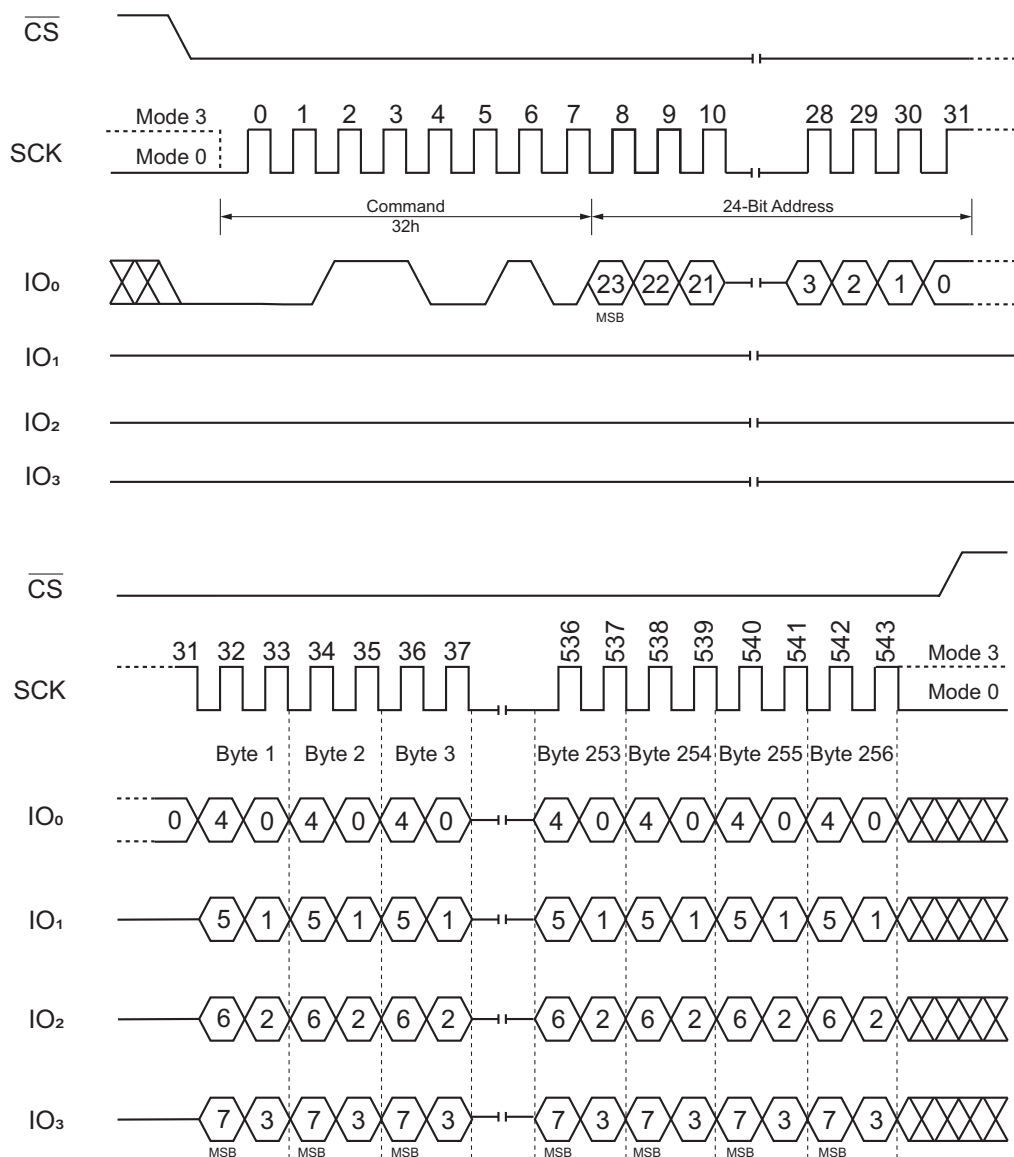

Figure 29. Quad Input Page Program Command
To use Quad Page Program, the Quad Enable (QE) bit in Status Register-2 must be set to 1. A Write Enable command must be executed before the device can accept the Quad Page Program command (Status Register-1, WEL=1). The command is initiated by driving the \overline{CS} pin low, then shifting the opcode 32h, followed by a 24-bit address (A23-A0) and at least one data byte, into the IO pins. The \overline{CS} pin must be held low for the entire length of the command while data is being sent to the device. All other functions of Quad Page Program are identical to standard Page Program. (See Figure 29.)